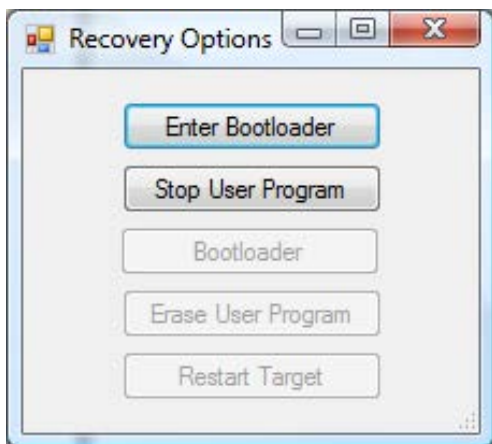

Figure 4-6
- Press the **F11** key on your computer's keyboard. The dialog box in Figure 4-6 will open.